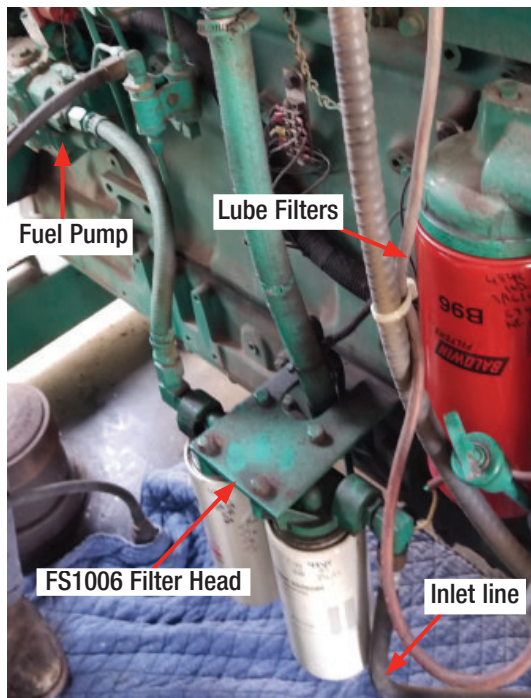

Figure 1: Before 500 SE Upgrade
1. Locate the dual FS1000 filter head on the left bank of the engine (see figure 1).